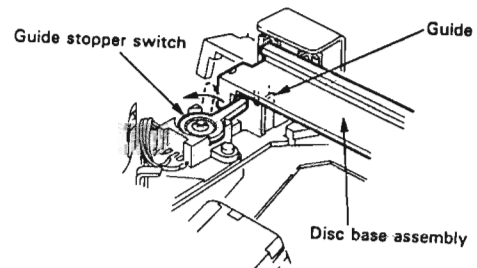

Fig. 9
7. While lifting the tip of the disc base assembly, move the blue guide stopper slide switch in the direction of arrow, and remove the switch from the disc base assembly. (Refer to Fig.9)